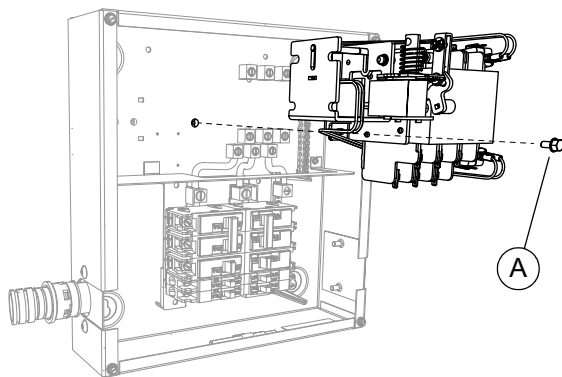

Figure 3-3. Remove Transfer Mechanism
4. See Figure 3-3. Remove screw (A) that holds the transfer mechanism in place, and remove transfer mechanism from the transfer switch.